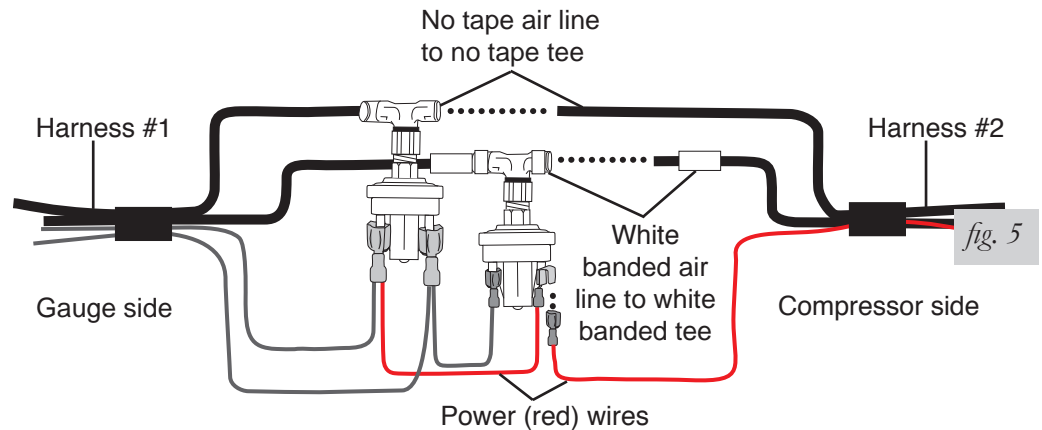

fig. 5
7. Connect wiring harness #2 to wiring harness #1 inside the vehicle by connecting the red wire from harness #2 and the banded and no tape air lines to the low pressure sensors. See fig. 5 for air line and electrical connection.